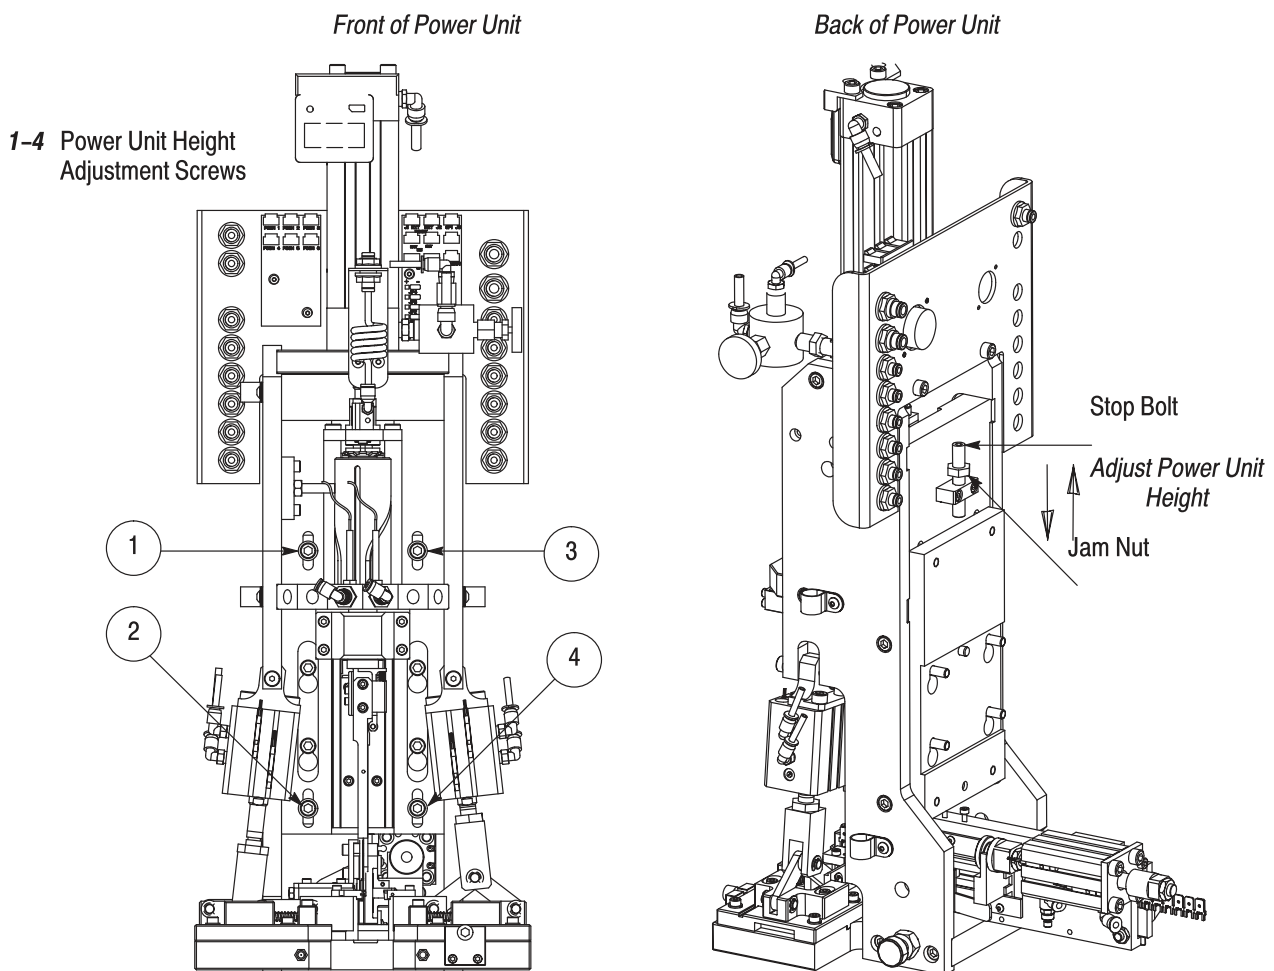

Figure 19
5.11. Power Unit Height (Terminal Insertion Depth) Adjustment (Refer to Figure 19)